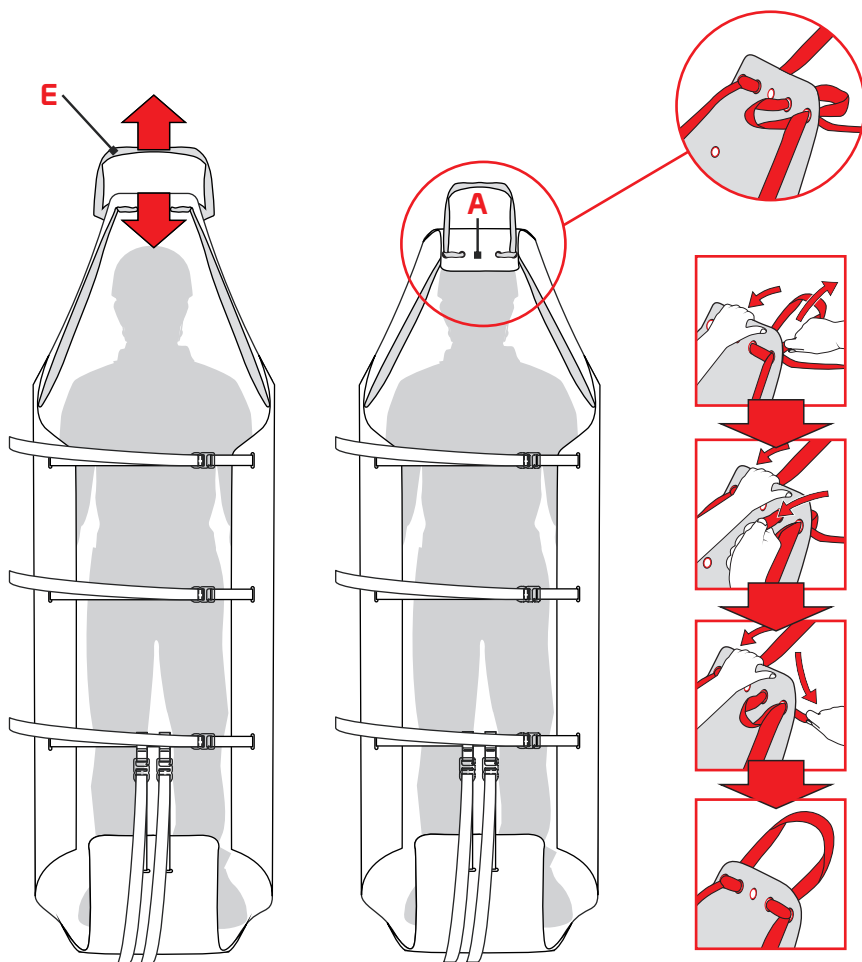

Fig.19
- c) Tension the sling (E) to lift the end part of the support surface (A) enough to contain the head of the patient and immobilise it (fig. 19).